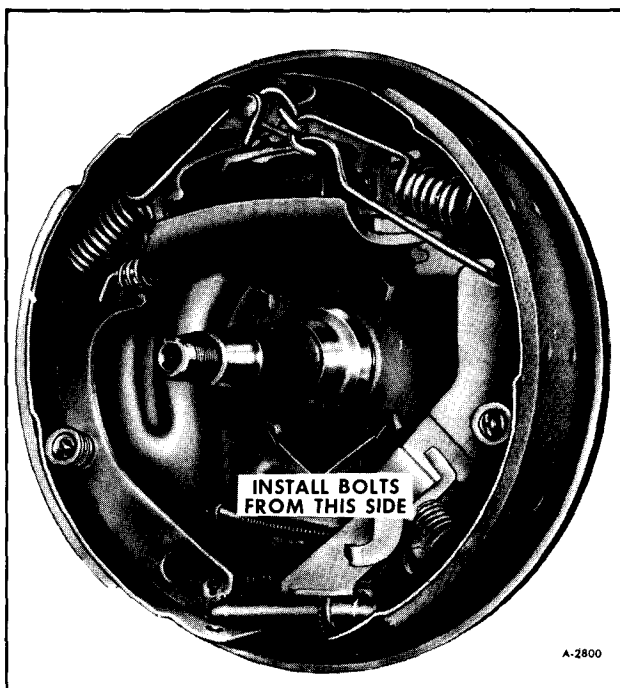

Figure 62—Backing Plate Installation
8. Install backing plate assembly, new bolts, washers and nuts as shown in Figure 62. Torque bolts 35-45 ft. lbs.